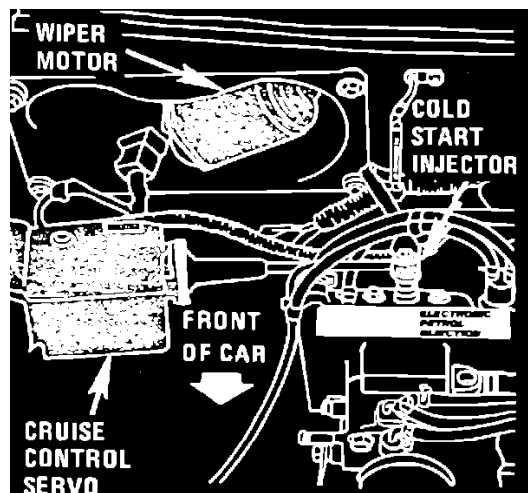

**Fig. 6 Choke lever adjustment**
6. Rotate fast idle cam counterclockwise and insert pin through holes in cam and bracket to lock cam in place, **Fig. 6**.
7. Bend choke lever up or down, as needed, to obtain specified choke blade clearance, **Fig. 6**. **Bending choke lever upward decreases choke blade clearance, while bending lever downward increases clearance.**
**NOTE:** If injectors are suspected as being dirty, they should be cleaned using an approved tool and procedure prior to performing this test. The fuel pressure test in Figure 6C20-121, should be completed prior to this test.
2. Ignition "ON". Record gauge pressure. (Pressure must hold steady, if not see the fuel system diagnosis, (Figure 6C20-121).